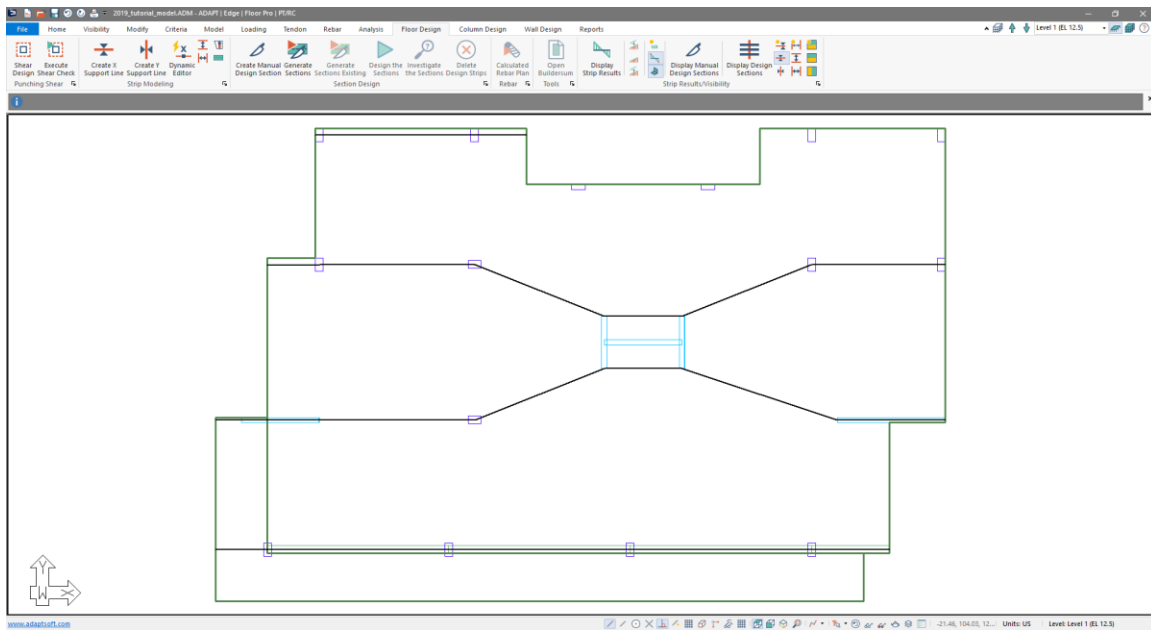

Figure 9-14
- Click on the *Top View*  icon in the **Bottom Quick Access Toolbar**. The model should now have support lines as shown in **FIGURE 9-14**.